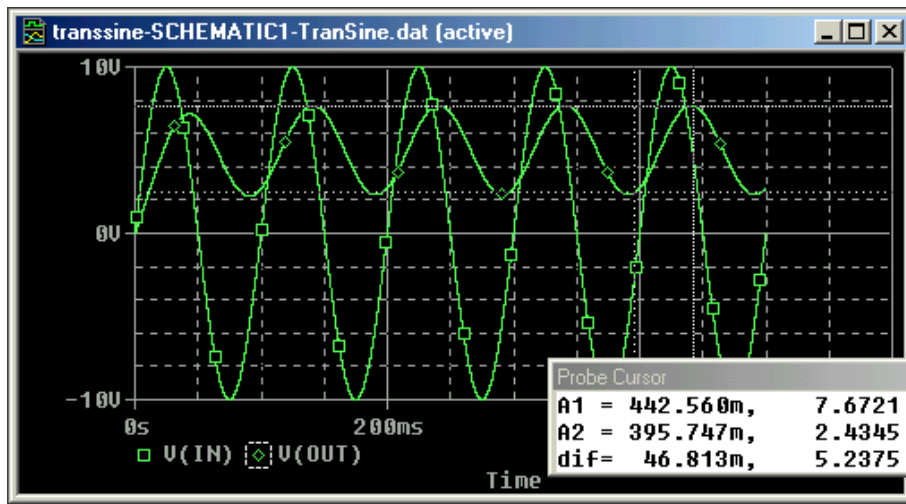

Figure 16: Transient simulation with a sinusoidal input.
9. We used the cursors in Figure 18 to find the 3dB point. The value is 6.49 Hz corresponding to a time constant of 25 ms ($R1 \parallel R2 \cdot C$). At 10 Hz the attenuation of Vout is 11.4db or a factor of 3.72. This corresponds to the value of the amplitude of the output voltage obtained during the transient analysis of Figure 16 above.